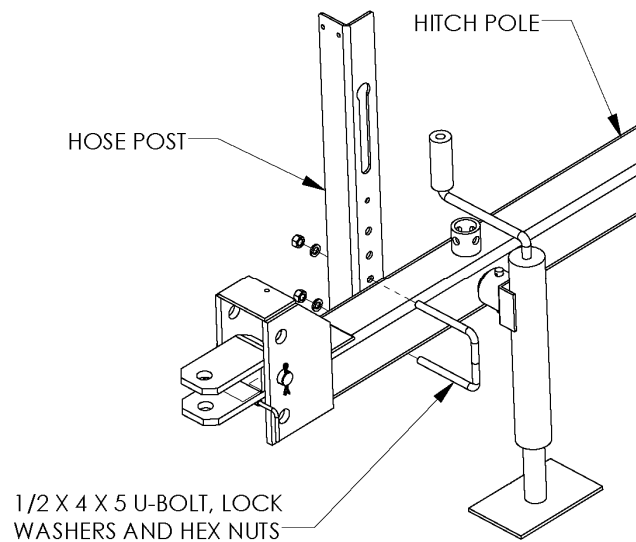

Figure 5
9. Attach the hose post to the hitch pole ahead of the jack. Refer to Figure 5. The post is fastened with a 1/2" x 4" x 5" U-bolt, lock washers, and hex nuts. See Hitch Storage Bracket parts list on page 45 for part details.